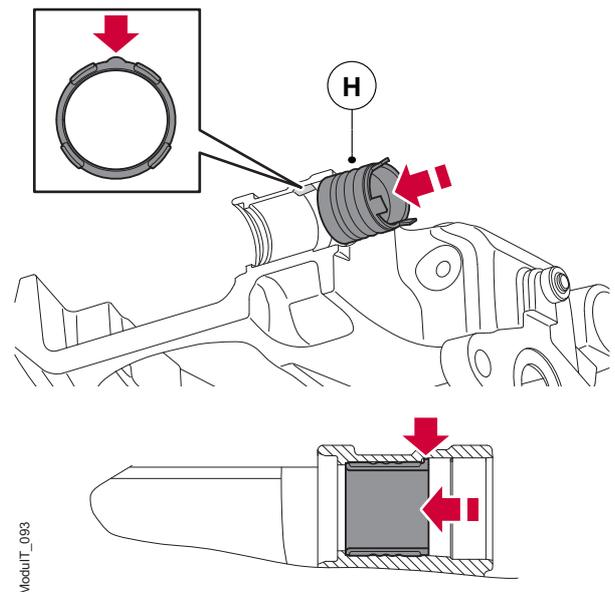

Figure 61. Inserting the trailing side composite bushing
- To install the new composite bushing (H) on the trailing side, by hand, push the composite bushing into place, until it bottoms out. Ensure the index lug locates correctly in the calliper slot, see figure 61.